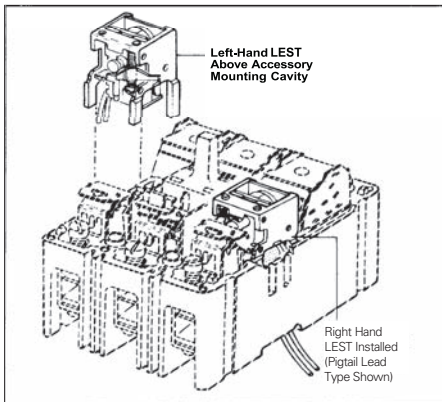

Fig. 2-3. LEST Installation Positions.
- 2-6. Insert LEST as described in the following steps (Fig. 2-3):